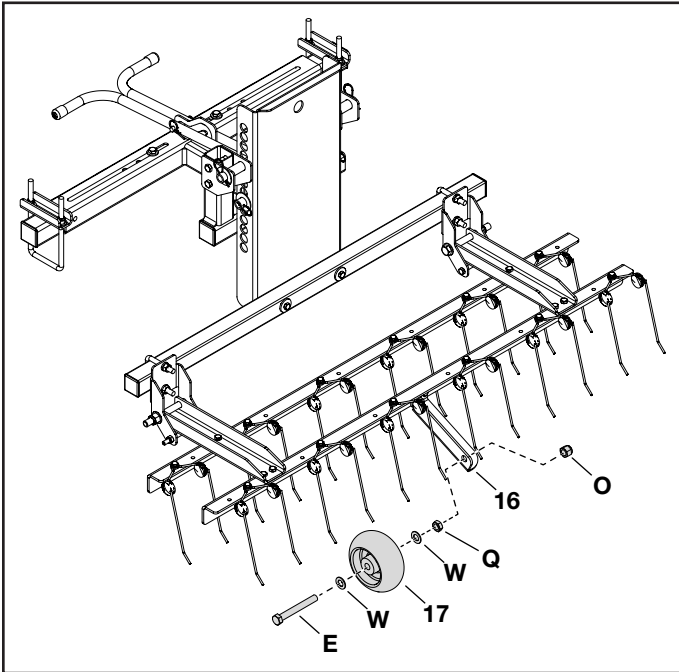

FIGURE 14
STEP 14: (SEE FIGURE 14)
- Attach the wheel (17) to the wheel mount bracket (16) using a hex bolt (E), two washers (W), a hex nut (Q), and a Nylock hex nut (O).